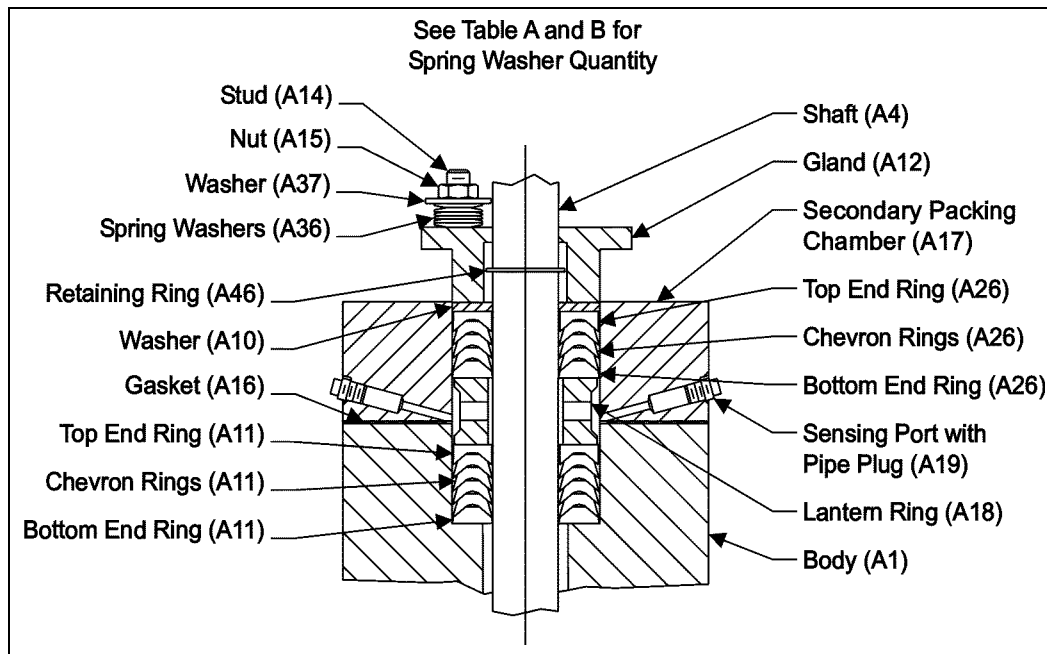

Figure 2 – Packing Option (TCDL)
- a. Place the primary (lower) set of packing (A11) in the body, one ring at a time, in the configuration shown in Figure 2. Do not lubricate. Start each chevron ring into the packing chamber at a slight angle and push each ring carefully into position so that the sealing lips do not bend over.
- b. Place the new gasket (A16), the secondary packing chamber (A17) and the lantern ring (A18) in the configuration shown in Figure 2.